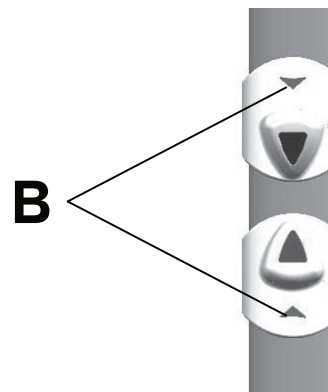

Figure 8 – Open/close indicators
**Note** - The open/close indicators (B) will show yellow when the door is released from the lock (Figure 8).
**Note** - The open/close indicators (B) will show green when the door is locked in the closed position (Figure 8).